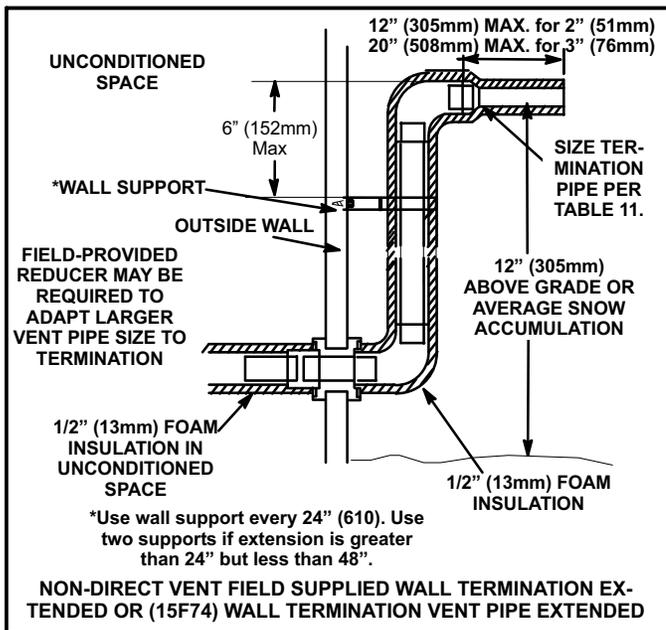

FIGURE 40
3. If exhaust piping must be run up a side wall to position above snow accumulation or other obstructions, piping must be supported every 24 inches (610mm) as shown in figure 40. When exhaust piping must be run up an outside wall, any reduction in exhaust pipe size must be done after the final elbow.